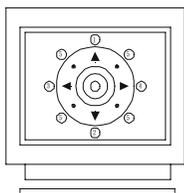

Figure 1
Push the joystick diagonally , the camera moves to that direction (direction ❺ on figure 1)